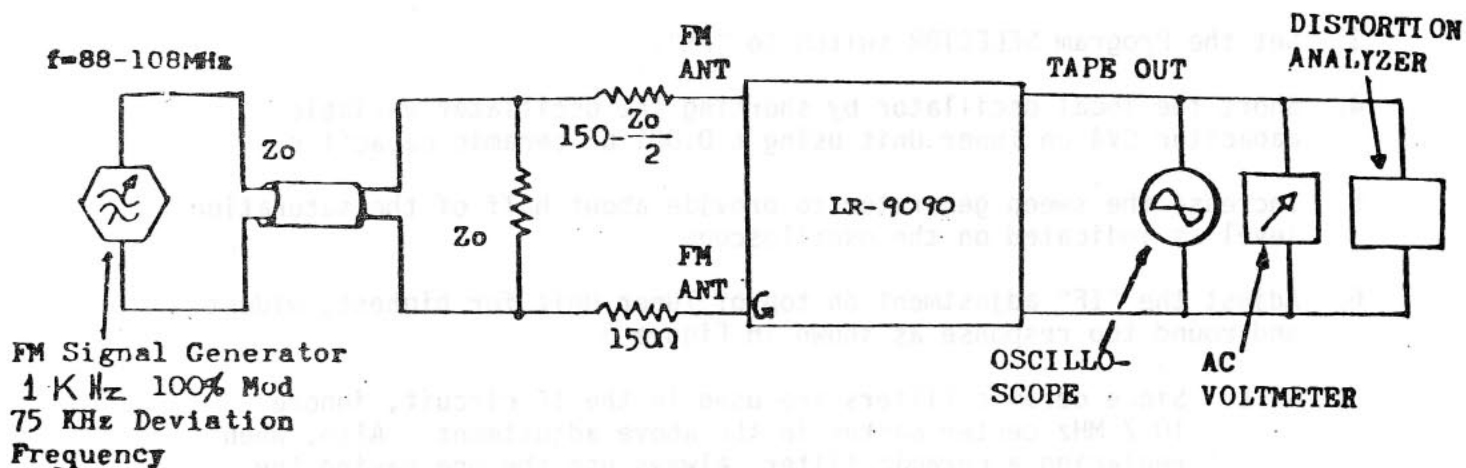

Figure 4. FM Front-End Test Set-Up.
2. Connect test equipment to the receiver as shown in Figure 4.
1. Connect test equipment to the receiver as shown in Figure 4.
Connect test equipment to the receiver as shown in Figure 4.